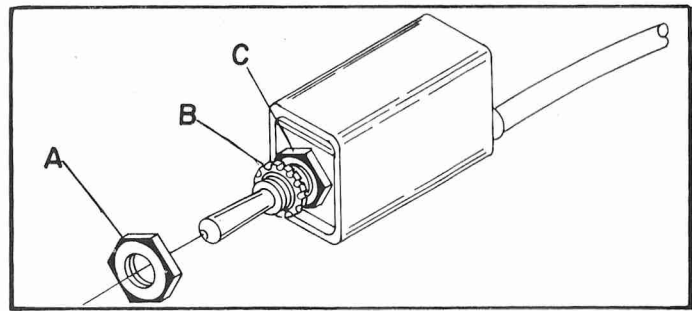

Fig. 12
2. Remove outer hex nut (A) Fig. 12, from the switch stem. Leave external tooth lockwasher (B) and inner hex nut (C) on switch stem. **IMPORTANT:** The proper grounding of the switch to prevent electric shock hazard, depends on the use of the external tooth lockwasher (B) in the manner shown.